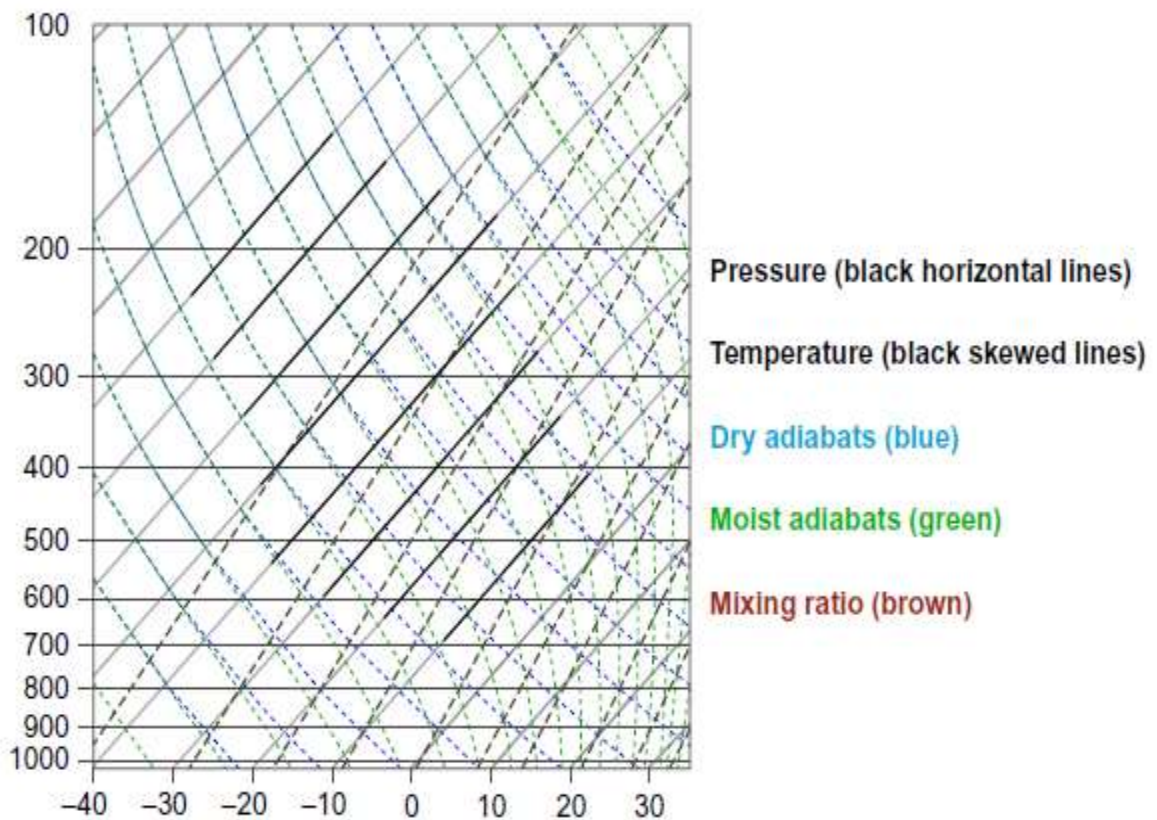

Fig.3 A complete Skew-T Log-P diagram, incorporating all of the components in Figs. 1 and 2.
- **Fig3** shows the complete Skew-T Log-P diagram. Although the number of lines can seem daunting at first, once proper identification and procedures are learned, it becomes one of the most powerful tools in weather analysis and forecasting.